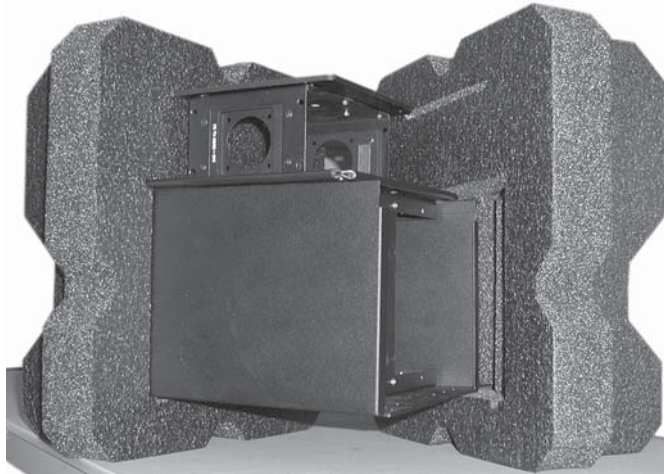

Figure B-4 — Installing the foam shell
7. Insert the HSA 800/802 and the clamshell into one of the foam shells (figure B-4). Either open end of the clamshell and the open top panel will fit into the recesses in the foam.